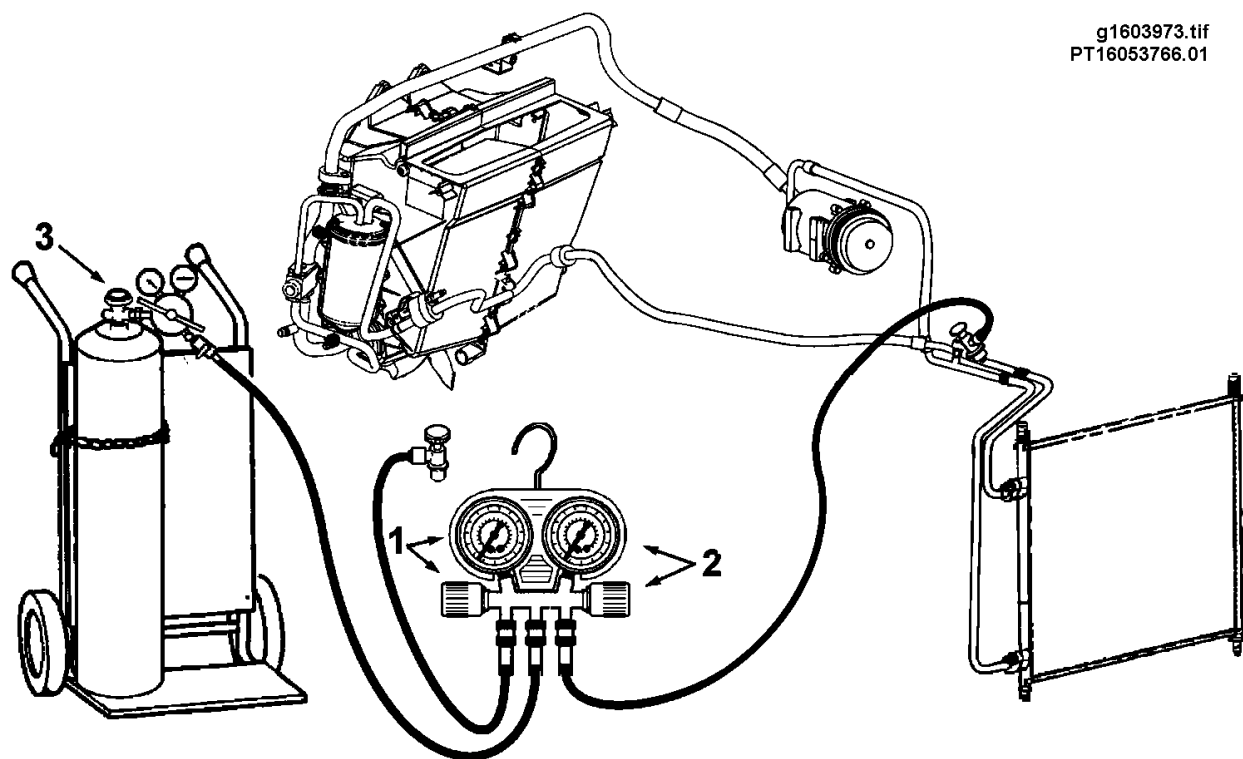

Figure 73 Using Nitrogen to Pressurize the A/C System
1. Connect a manifold gauge set to the a/c system. Refer to FIGURE 73.